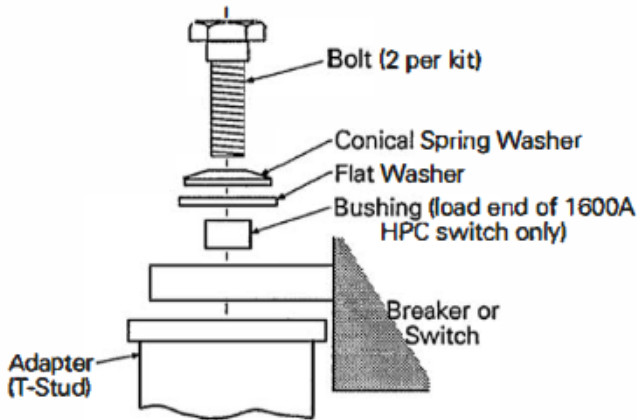

Figure 4. Typical assembly of bus adapter, catalog numbers TP16FCA, SP20FCA, and SP20FCC.
- Figure 4 for catalog numbers TP16FCA, SP20FCA, and SP20FCC.